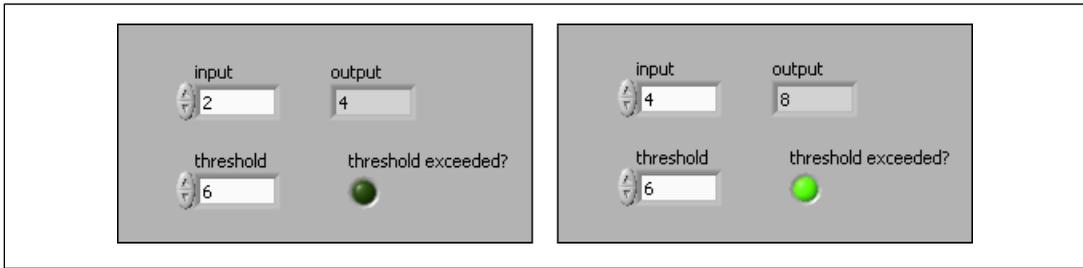

Figure 5. LED Lights when Output Exceeds Threshold
3. Enter different values in the **input** numeric control. In Figure 5, the **output** value on the left does not exceed the **threshold** value. If you change the **input** value so that the **output** value is greater than the **threshold** value, the **threshold exceeded?** LED lights.